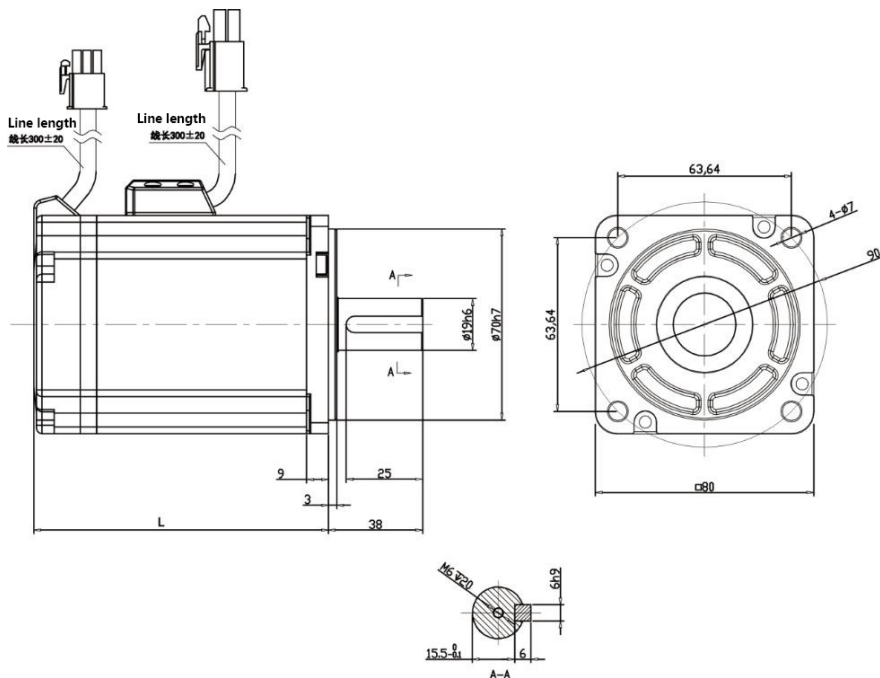

Figure 3.3 80 motor and Table 3-2
- Installation dimensions of 80-frame motor (see Figure 3.3 and Table 3-2)